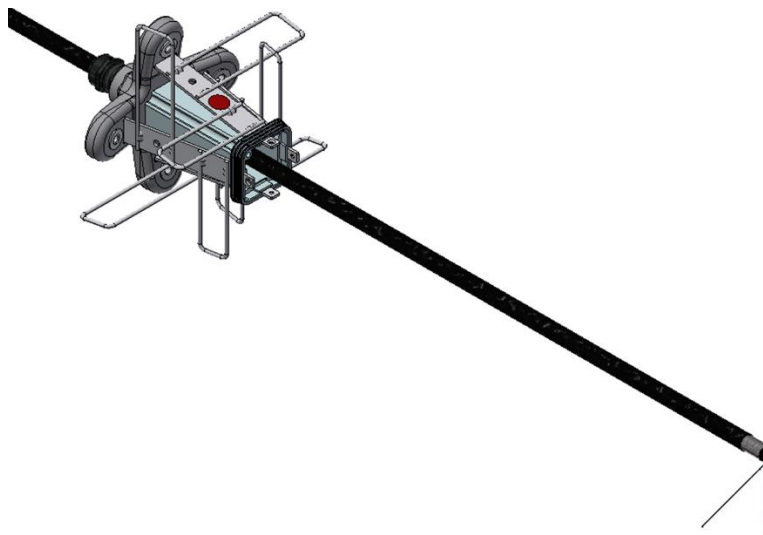

Figure 2: Trumpet insertion into the hybrid cable.
| Figure 2: Trumpet insertion into the hybrid cable. | 6 |
3. Insert the hybrid cable inside the trumpet, from the FEM side (as shown in Figure 2 **Errore. L'origine riferimento non è stata trovata.**).